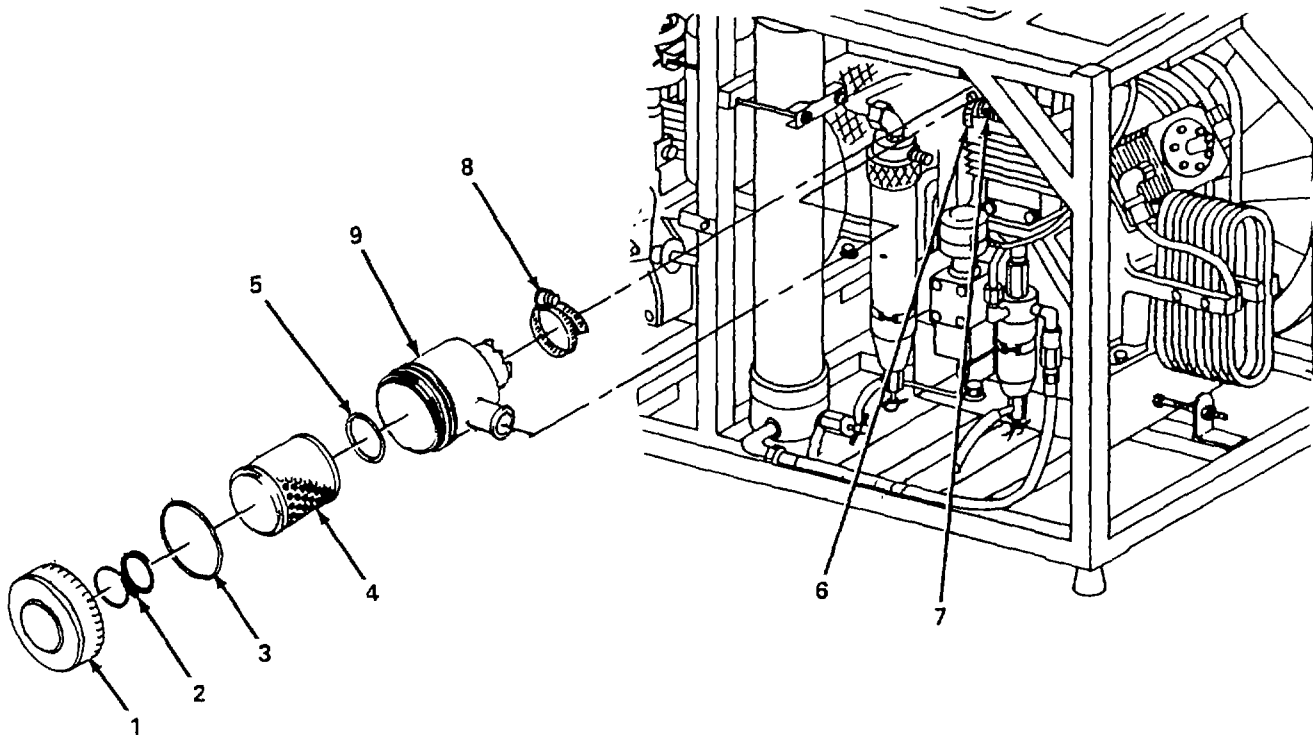

Figure 4-5. Inlet Filter and Adapter Assembly, Service.
a. **Service.** (figure 4-5)
- (1) Remove cover (1), spring (2), preformed packing (3), filter (4), and preformed packing (5). Discard preformed packings (3) and (5).
- (2) Loosen clamp (6) and remove air inlet hose (7).
- (3) Loosen clamp (8) and remove body (9).
- (4) Inspect body (9) and remove all dirt and debris from interior.
- (5) Inspect cover (1) and remove all debris from interior.
- (6) Install body (9) and tighten clamp (8).
- (7) Install air inlet hose (7) and tighten clamp (6).
- (8) Install new preformed packing (5), new filter (4), new preformed packing (3), spring (2), and cover (1).